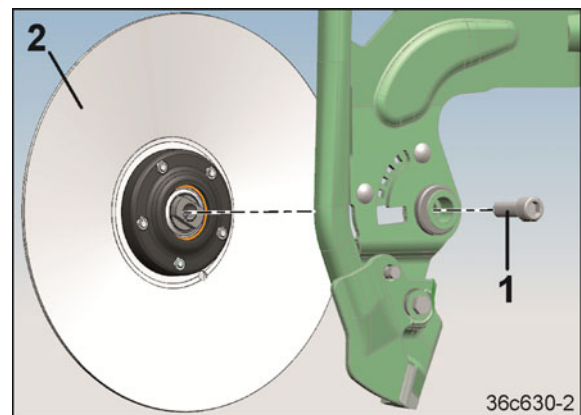

Fig. 308
2. Loosen the socket head bolt 16X 45 (Fig. 308/1)
3. Remove the coulter disc (Fig. 308/2).
7. Install the coulter disc (Fig. 308/2).
8. Put on a socket head bolt 16X 45 (Fig. 308/1) and tighten it